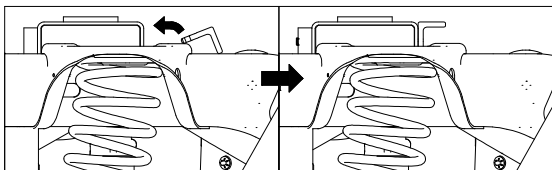
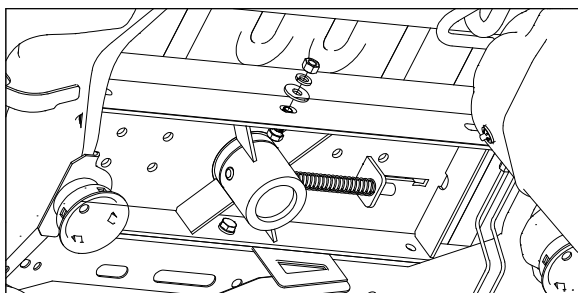

Figure C6: Cut-Away view of passenger side of frame (Bed not shown)
Figure C7: View looking up under truck bed from in front of the axle towards the rear of the truck. (Axle and exhaust not shown)
6. **Attach the front cross member.** Push the front cross member back against the center section. Center the cross member in the truck so that the slots in the front cross member will line up with the holes in the center. Using an adjustable wrench on the longer leg of the angle rotate the front cross member so that the leg of the angle with the holes is vertical, see Figure C6. The vertical cross member leg has a profile machined into it that will allow it to be rotated while it is centered in the truck and located over the coil spring mounts on top of the frame. Make sure no part of the wiring harness gets pinched between the frame and the hitch parts. Attach the center and the cross member with a single 1/2" x 2-1/4" long bolt in the center hole only, as shown in Figure C7. The bolt head must be toward the rear of the truck. Add a flat washer, lock washer, and finish nut to the bolt and hand tighten. Do not fully tighten at this point.